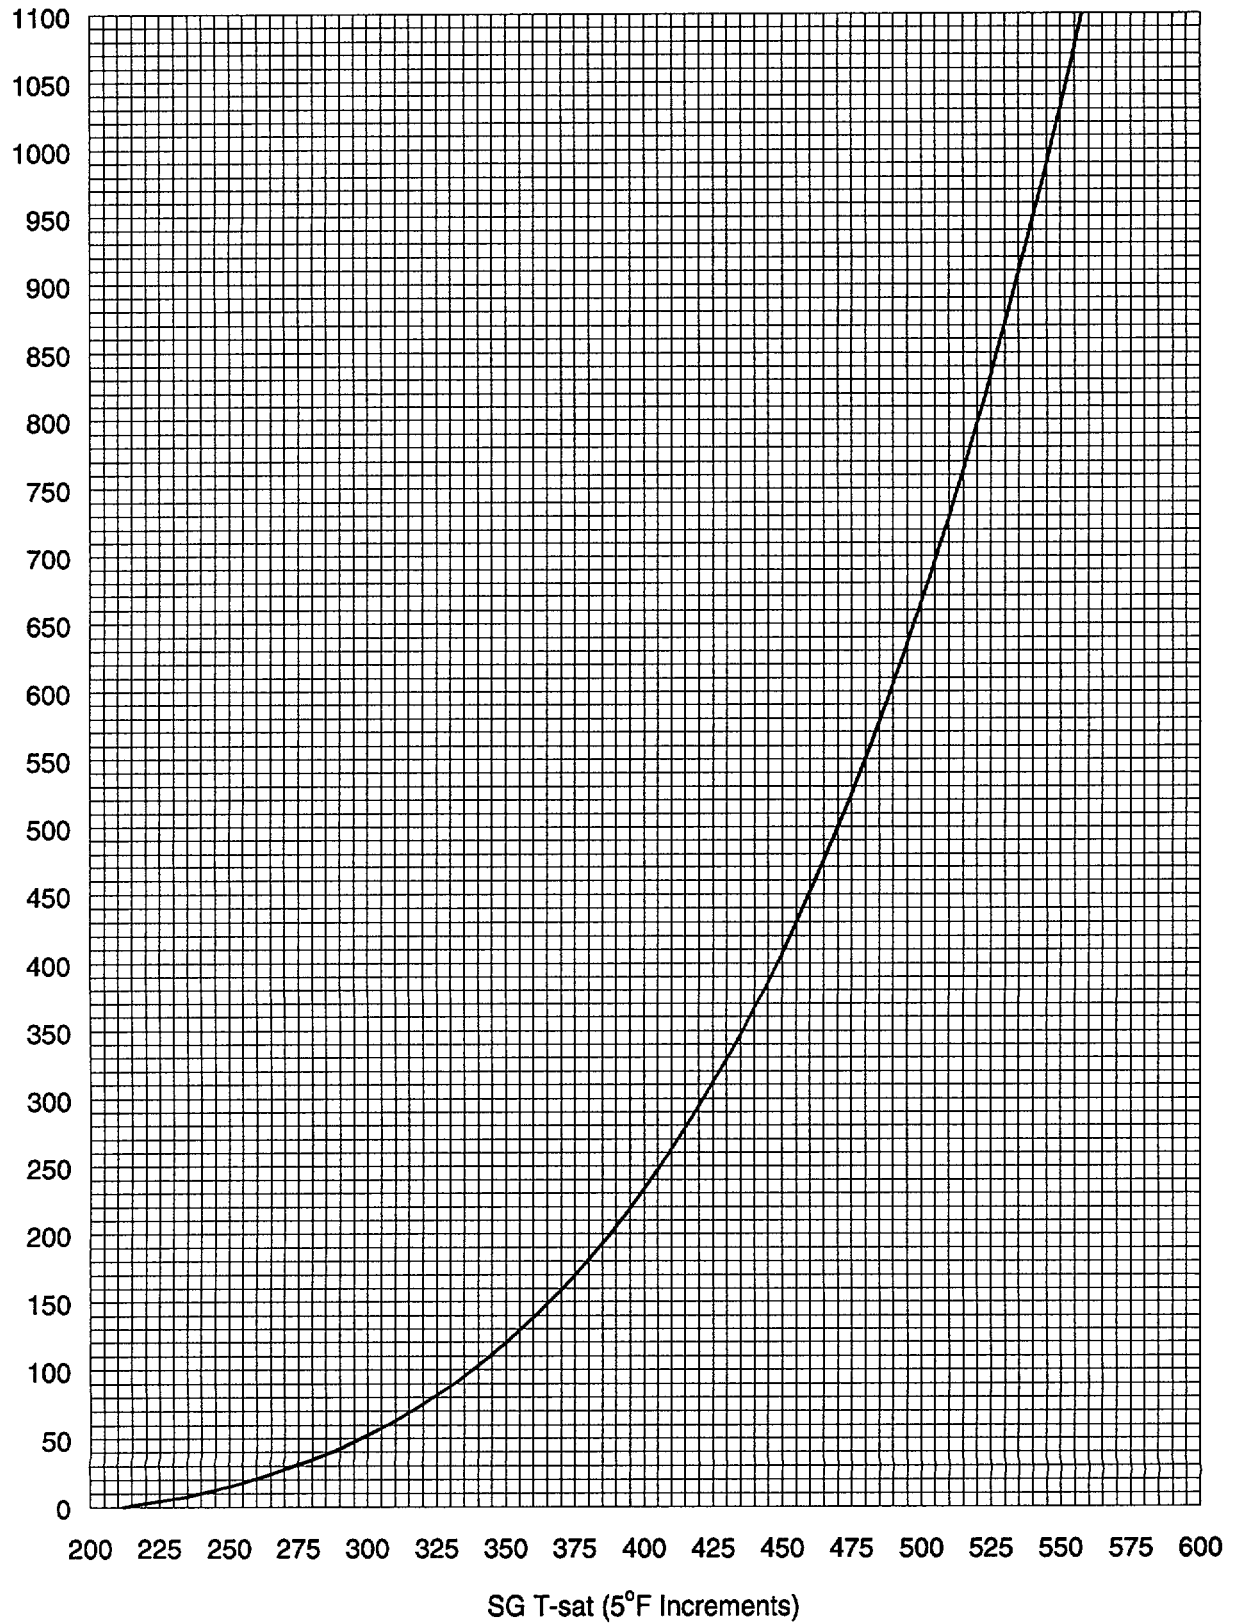

FIGURE 3 RCS Pressure vs Temperature Limits
- a. Controlling reactor coolant system pressure low within the limits of Figure 3.